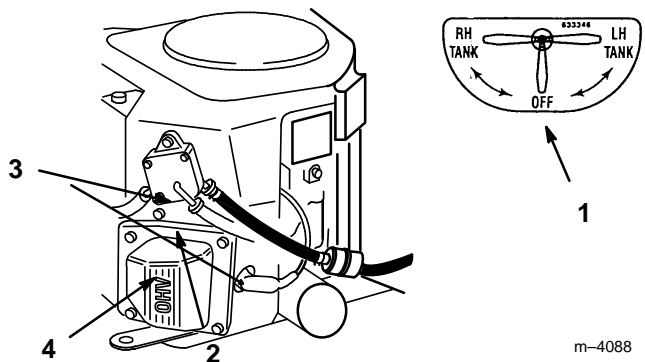

Figure 31
5. Install a new filter and move the hose clamps close to the filter (Fig. 31).
2. Close fuel shut-off valve (Fig. 31).
3. Loosen the hose clamp at the fuel filter and slide it up the fuel line away from the fuel filter (Fig. 31).
4. Pull the fuel line off fuel filter (Fig. 31).
5. Open fuel shut-off valve for left and right tanks. Allow gasoline to drain into a gas can or drain pan. (Fig. 31).
6. Install the fuel line onto the fuel filter. Slide the hose clamp close to the fuel filter to secure the fuel line (Fig. 31).